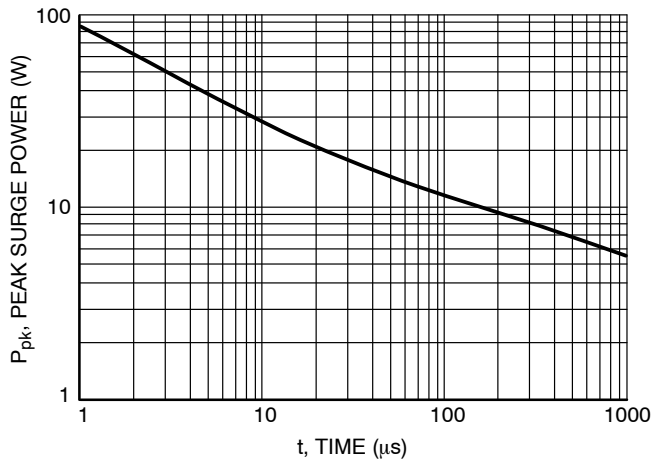

Figure 6. Pulse Width
1. Non-repetitive current pulse per Figure 6.